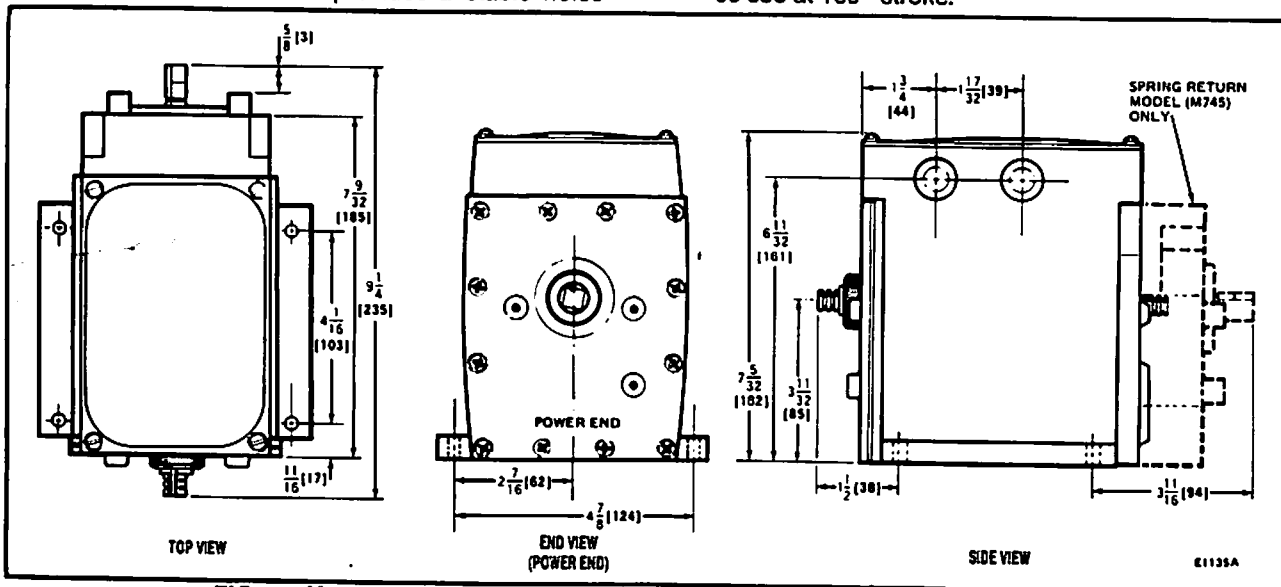

FIG. 1—M744 AND M745 MOUNTING DIMENSIONS IN in. [mm IN BRACKETS].
**DIMENSIONS:** Refer to Fig. 1.